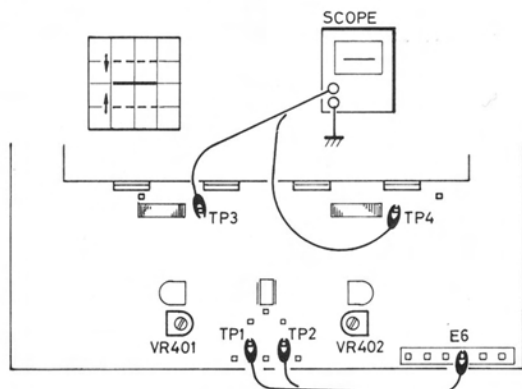

Fig. 1
Before making adjustment, short-circuit pin E6 to pin TP3 (TP-4 for R-ch) on H-AF-119 p-c board, to avoid servo effect. (Fig. 1)
2. Connect the oscilloscope to pin TP3 (TP4 for R-ch) on main amp p-c board. Set volume control of the amplifier to minimum position. Turn on the power. When DC output appears on the screen (the trace will shift upwards or downwards as shown in Fig. 1), adjust potentiometer VR401 (VR402 for R-ch) on H-AF-119 p-c board so that the DC voltage present at the test point is 0V±50mV.